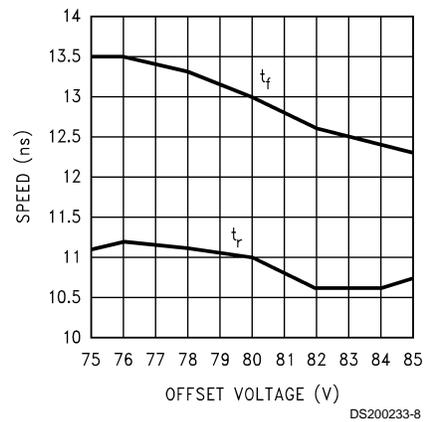

FIGURE 7. Speed vs Offset
*Figure 7* shows the variation in rise and fall times when the output offset of the device is varied from 75 to 85VDC. The rise time shows a maximum variation relative to the center data point (80VDC) of 4%. The fall time shows a variation of less than 5% relative to the center data point.